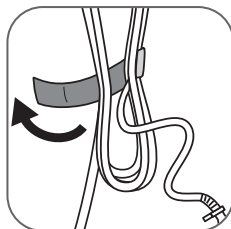

fig. 10
- Undo the Velcro strip and completely unwind the electrical cord. (fig.10)